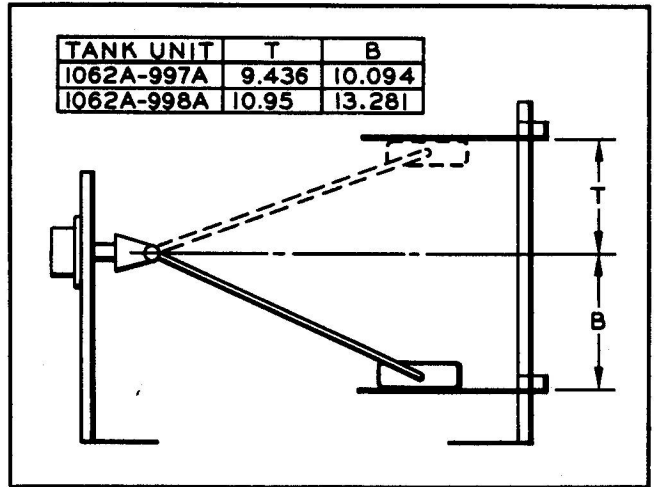

Figure 4-286. Set-Up Stand Diagram
ADJUSTING FLOAT ARM STOPS. See paragraphs 3-1 thru 3-6 and 3-8 thru 3-9. Use a set-up stand similar to that shown in figure 3-1. Adjust dimensions of stops to values shown in figure 4-286.
a. Install tank unit in set-up stand and make sure that stops are adjusted as shown in figures 4-286.